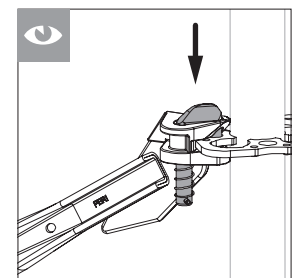

Fig. A4.11e
- Engage bolt (**24.4**) completely in the brace adapter (**12.3**). (Fig. A4.11e)